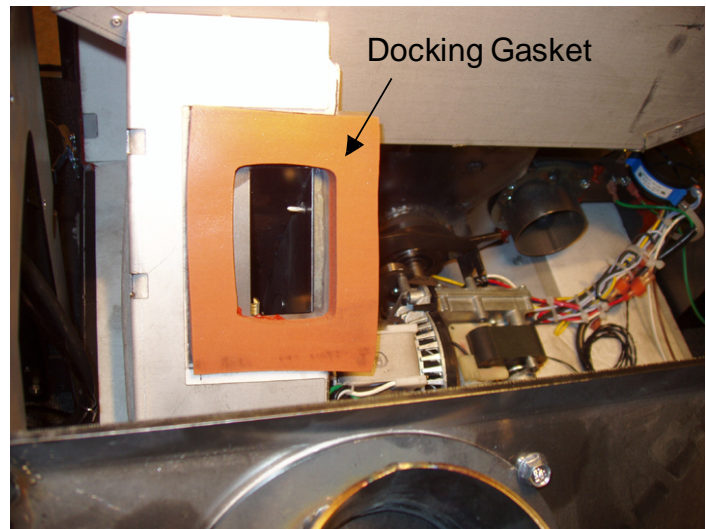

Fig. 36
21. Inspect the flue docking gasket. See Fig. 36.